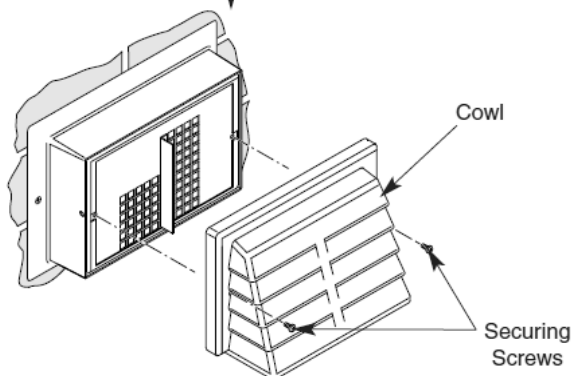

Fig. 9
2. Mark and trim the small end of the collar flush with the metal casing of the unit (Fig. 9).
5. Fit the cowl in place and secure using the two screws provided (Fig. 9).